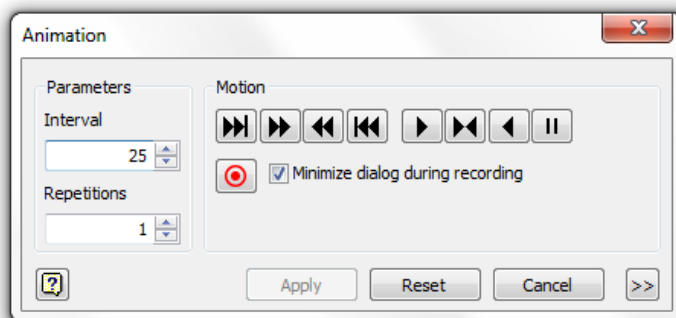

Figure Step 16
Step 16 Enter the ANIMATE command. It will open the Animation dialogue box. Set the Interval to 25 and the Reiterations to 1. (Figure Step 16)